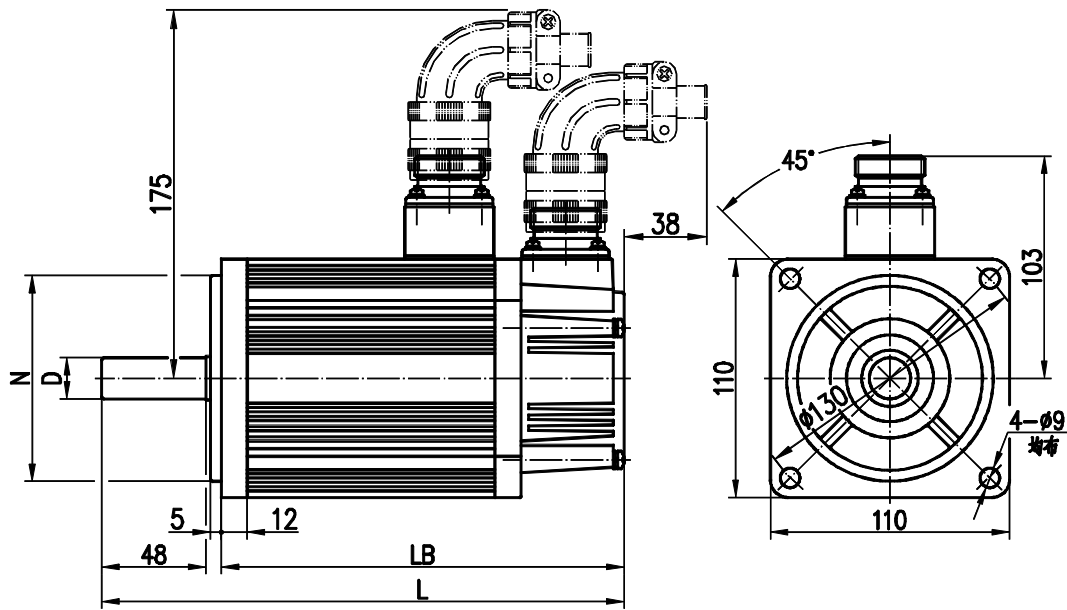

Fig.2
6.2 See Fig.2 about the installation dimensions of 110SJT